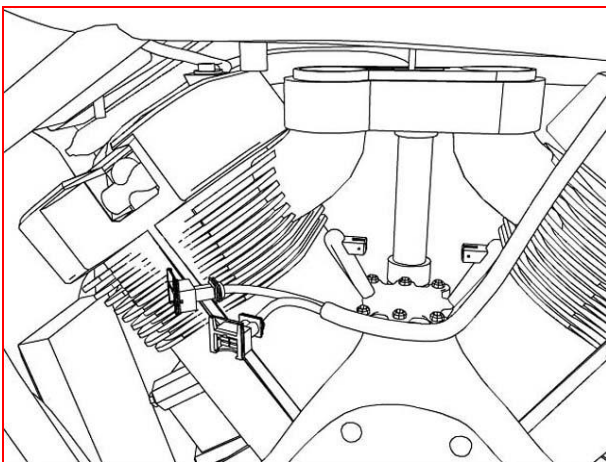

Figure 10
9. Feed the injector harness out the left side. (see figure 10)